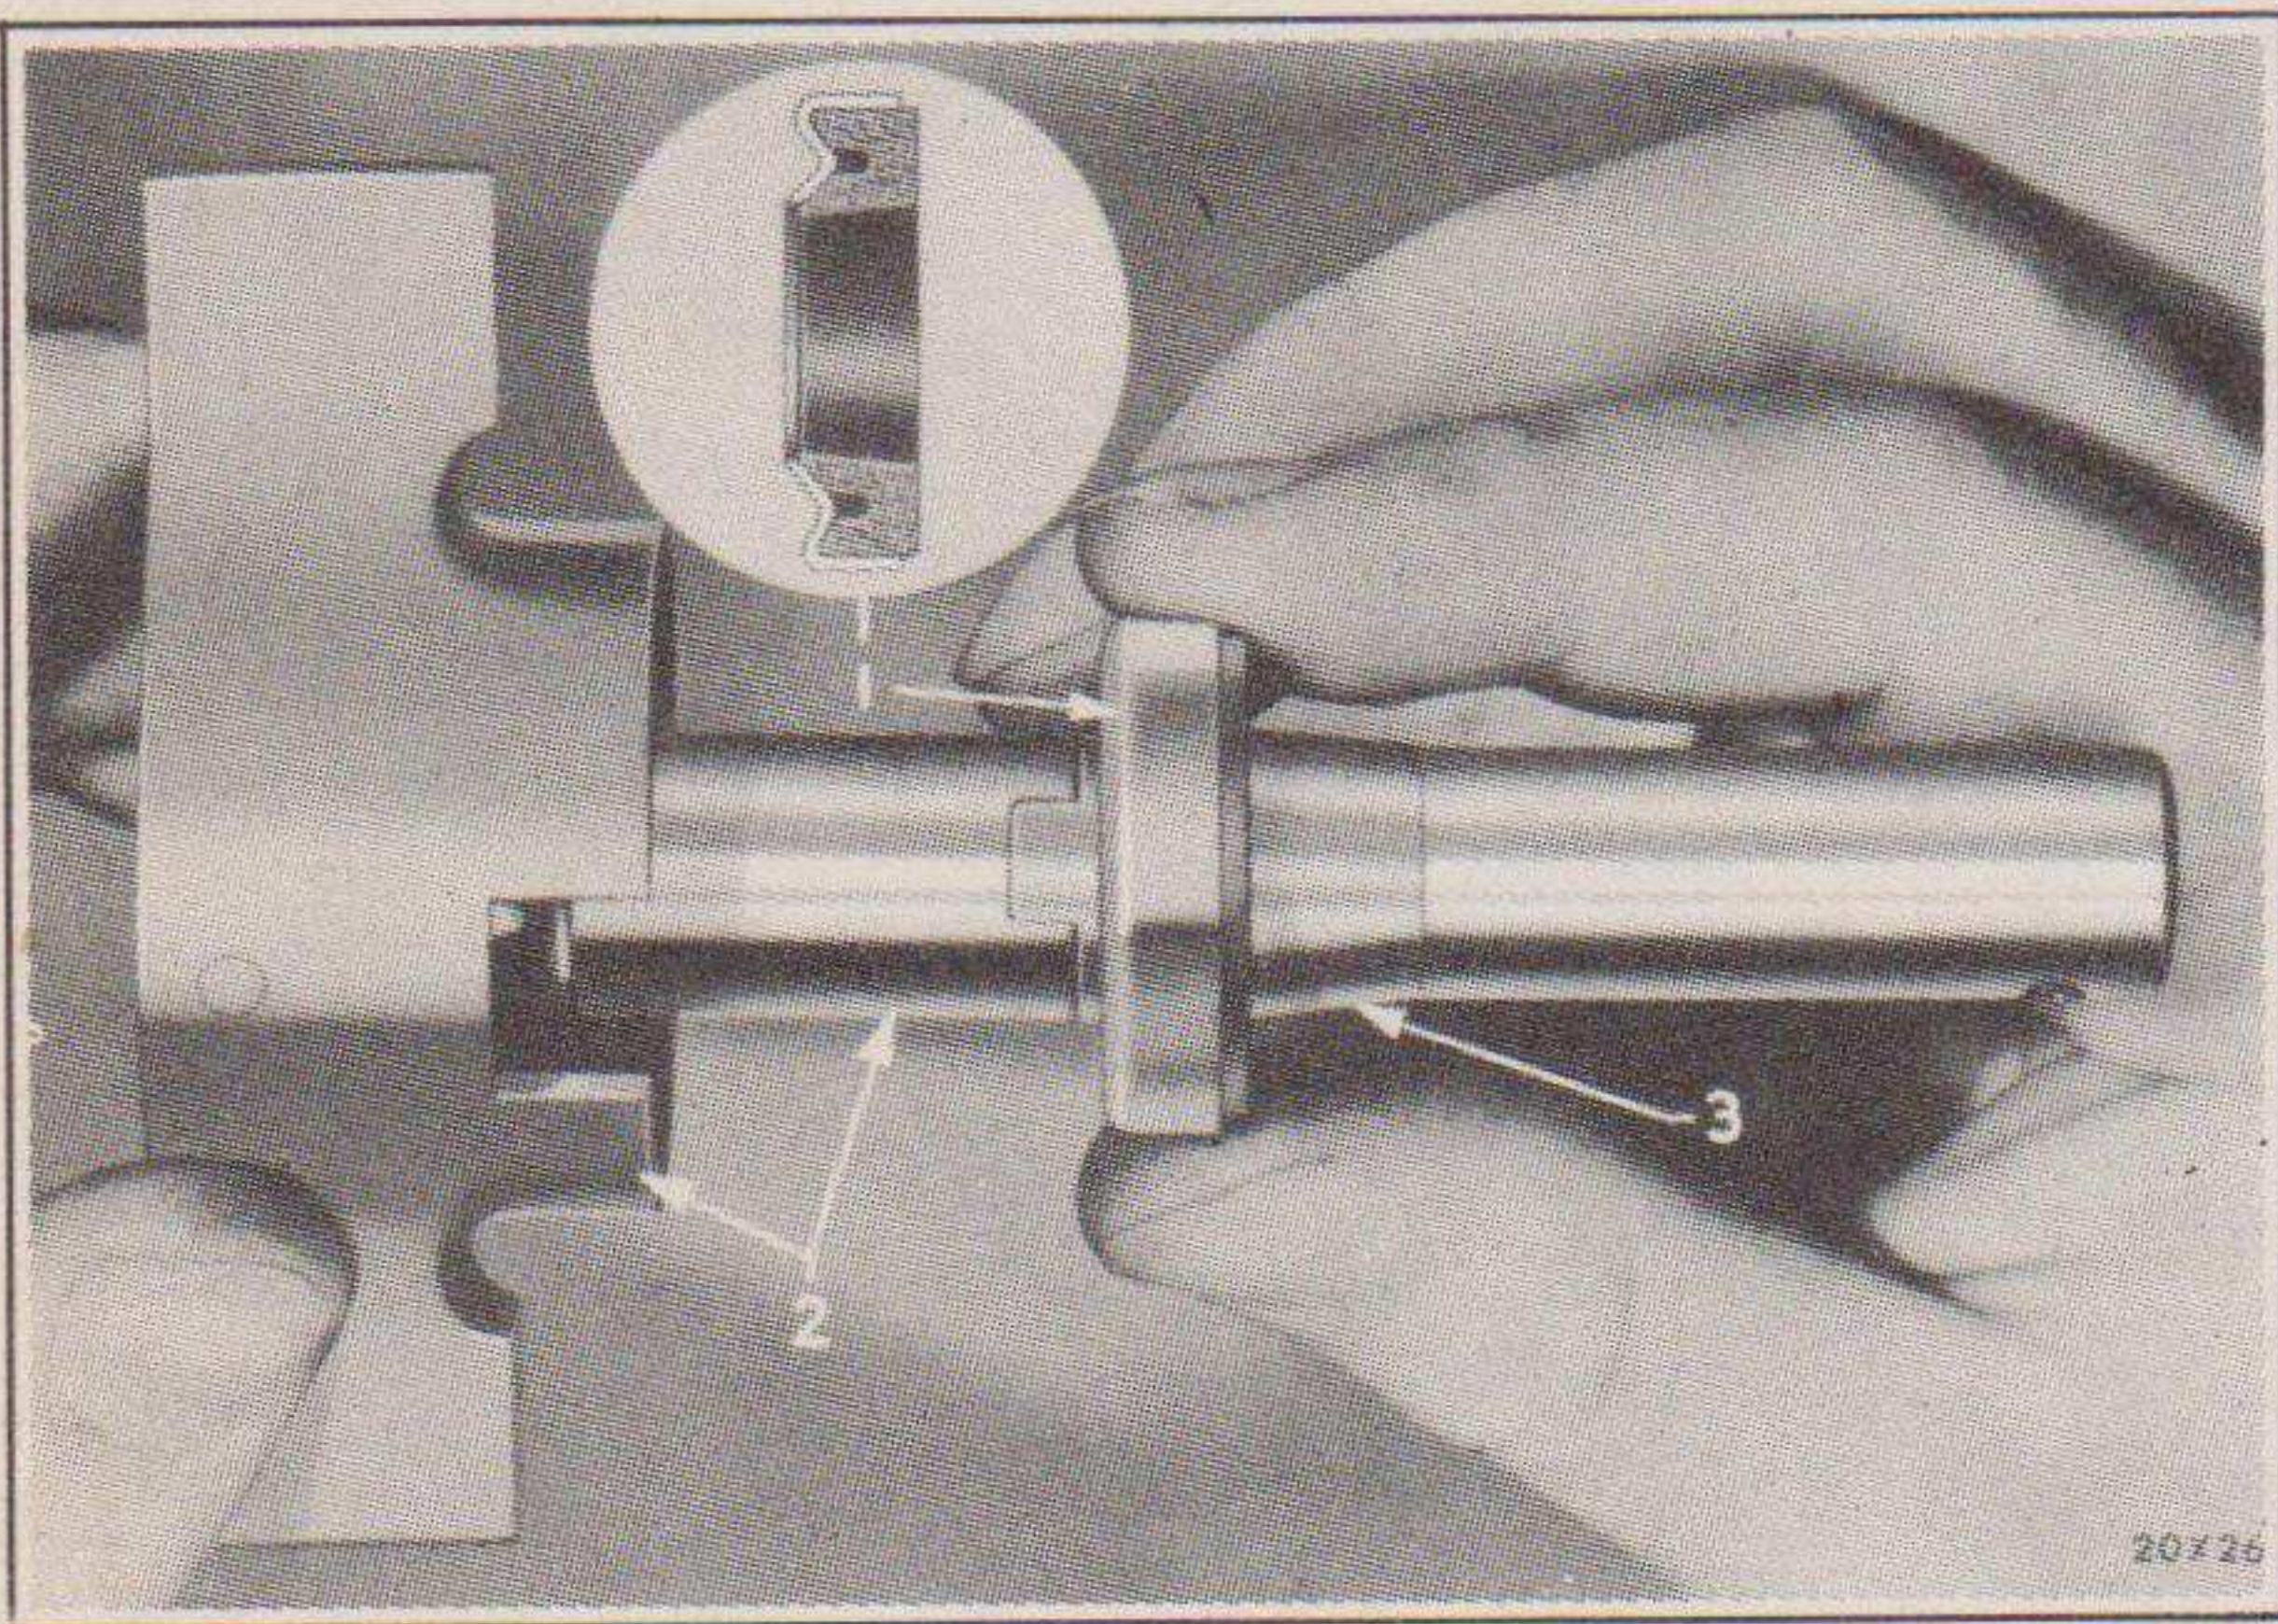

Fig. 105—Installing Water Pump Seal
- (h) If a new shaft, impeller and seal assembly is to be installed in the pump, slide the assembly through the rear bushing, thrust washer and front bushing, aligning the shaft and washer so they will fit together. Note: If the component parts of the shaft assembly are being replaced, first install the impeller on the shaft, making back of impeller flush with end of shaft and then drill shaft and install the impeller pin. Install the seal thrust spring and seal retainer. Using special tool C-528, assemble seal as shown in Fig. 105. This special sleeve prevents danger of scuffing inside diameter of seal which might cause leakage of water between shaft and seal. Then install seal retainer washer and lock ring.